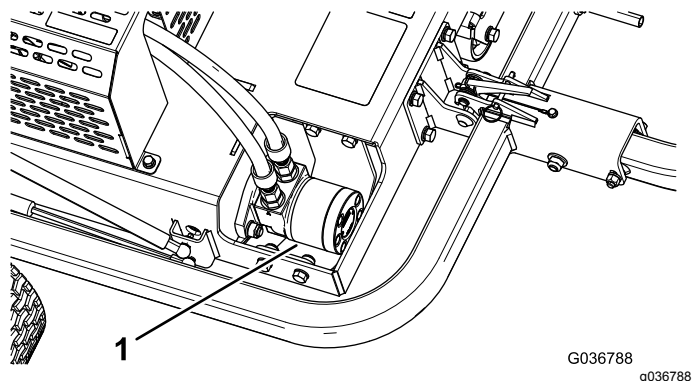

Figure 40
3. Clean dirt and debris from the area around the hydraulic motor (Figure 40).